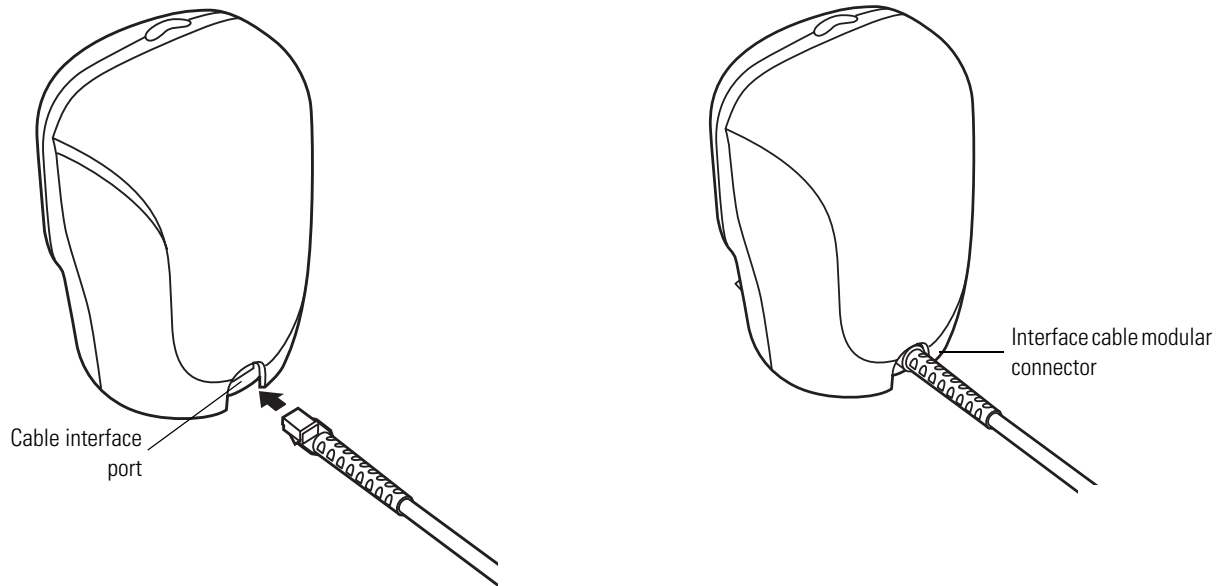

Figure 1-2. Installing the Interface Cable
2. Plug the interface cable modular connector into the interface cable port on the rear of the Symbol LS9203 (See Figure 1-2.)